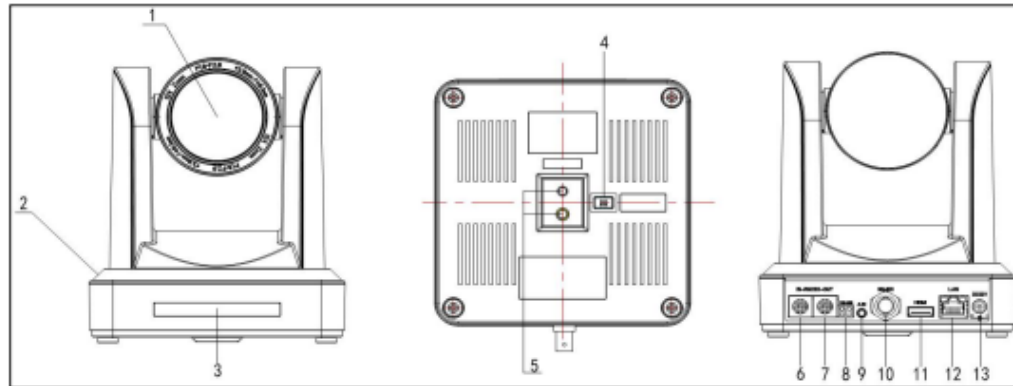
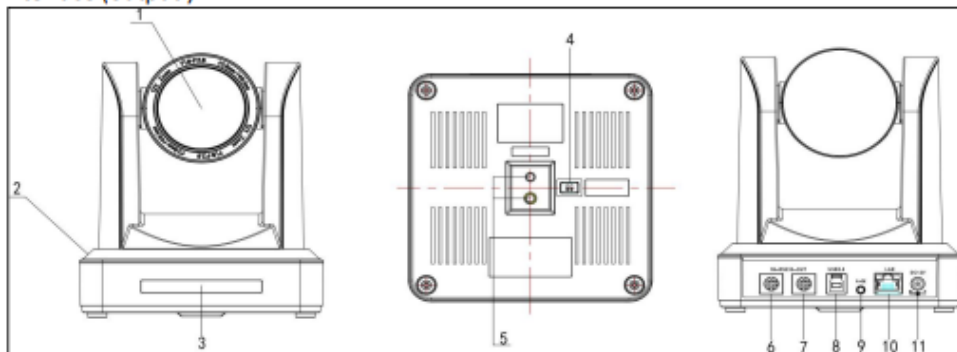

Figure 1.1 Interface of ST (standard) Series
Figure 1.2 Interface of U3 (USB3.0) Series
a. Network cable connection port: ST model—No.12 in Figure 1.1; U3 model—No.10 in Figure 1.2; U2 model—No.10 in Figure 1.2; HD model—No.9 in Figure 1.5; U2U3 model—No.10 in Figure 1.6.
a. HDMI video cable connection: ST models refer to No.11 in Figure 1.1. U2U3 models refer to No.9 in Figure 1.6.
- a. 3G-SDI video cable connection: ST models refer to No.10 in Figure 1.1.
- a. USB3.0 video cable connection: U3 models refer to No.7 in Figure 1.2. U2U3 models refer to No.8 in Figure 1.6.